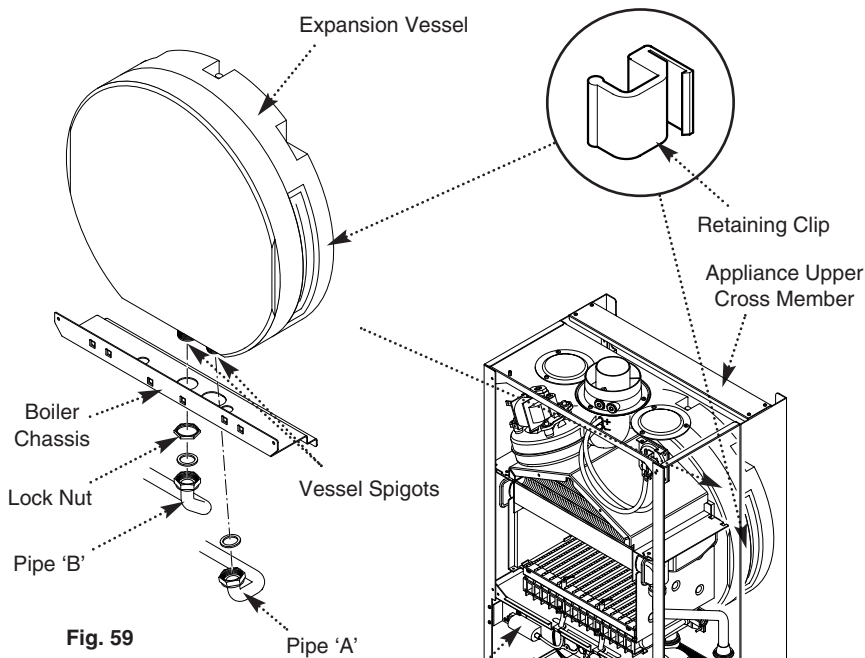

Fig. 59
12.16 Expansion Vessel & Pre-Heat Store (Fig. 59)
4. Undo the unions on pipe 'A' and remove the pipe (Fig. 59).
5. Undo the union on pipe 'B' connected to the vessel (Fig. 59) and remove the locknut securing the vessel spigot to the boiler chassis.